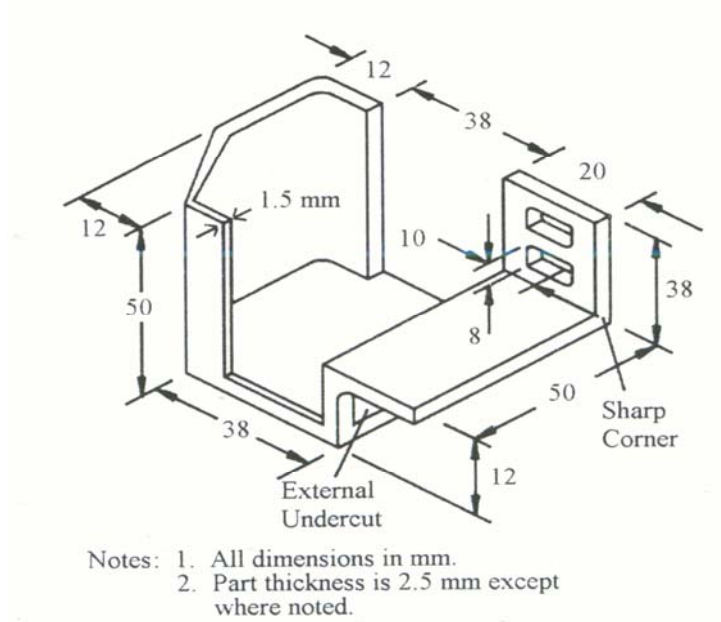

Figure 7.1
a) Imagine that you are part of the INDMFG team and you have been asked to roughly estimate the cycle time for the part shown in Fig 7.1. If it is to be produced with tight tolerances, what would you estimate the cycle time to be if the part is made of nylon 6 in a mold with a texture finish, given that the maximum wall thickness of the part is 2.5mm and the minimum wall thickness of the part is 1.5mm. [15]
b) In an effort to reduce processing costs, what redesign suggestions would you make for the part shown in Fig 7.1 so that the cycle time of the part is reduced? [5]